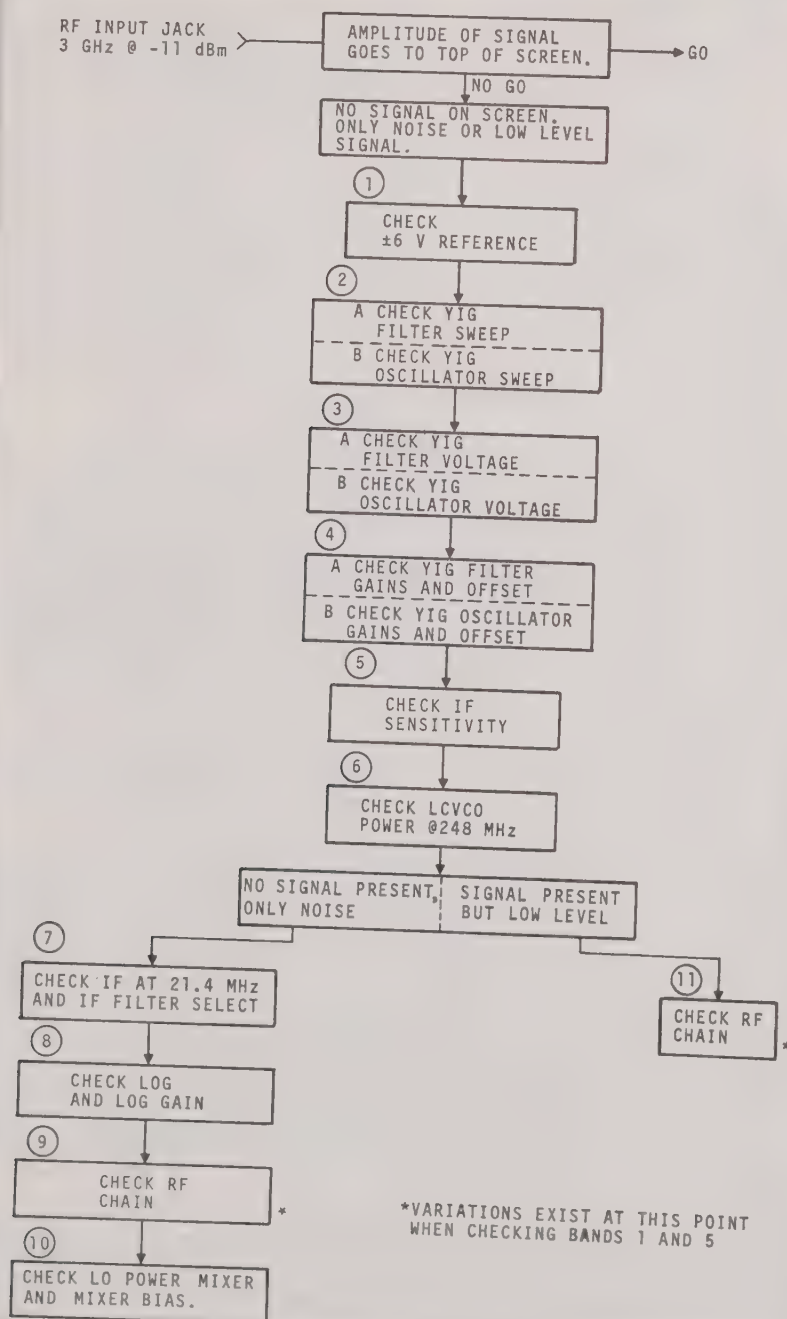

Figure 3-8. RF and IF Section Checkout
- b. Perform a checkout of the RF and IF section as described in the flow chart of Figure 3-8 and the accompanying instructions. The numbers shown at the upper left corner of the instruction boxes of the flow chart refer to the accompanying instructions which are similarly numbered. Each instruction explains in detail the operations to be performed for that instruction box.